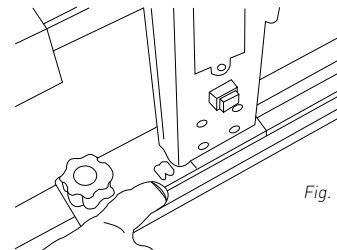

Fig. 7
6. Adjust the laser column on the scale according to the measurements indicated by the web app. (Fig. 7)